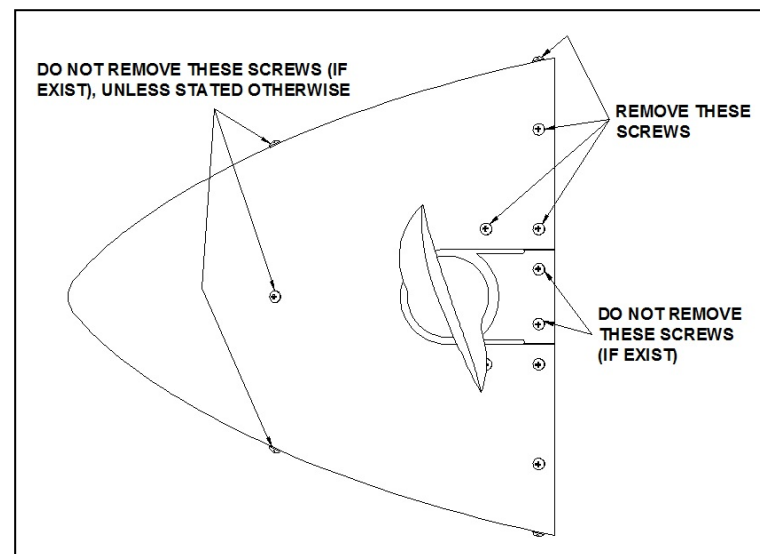

Figure 5-1
- (1) Remove the spinner dome from the propeller.
- (a) The screws at half of the spinner dome indicate that the front plate is mounted inside (Figure 5-1). Do not remove these screws to remove the spinner dome from the propeller. However, if the front plate has been removed, reinstall it back into the spinner dome (see the marking).
- (b) Do not remove the screws attaching the cover plates to the rear bulkhead in the places of the blades, if exist (Figure 5-1). However, if the cover plates have been removed, reinstall them back into the rear bulkhead (see the marking).